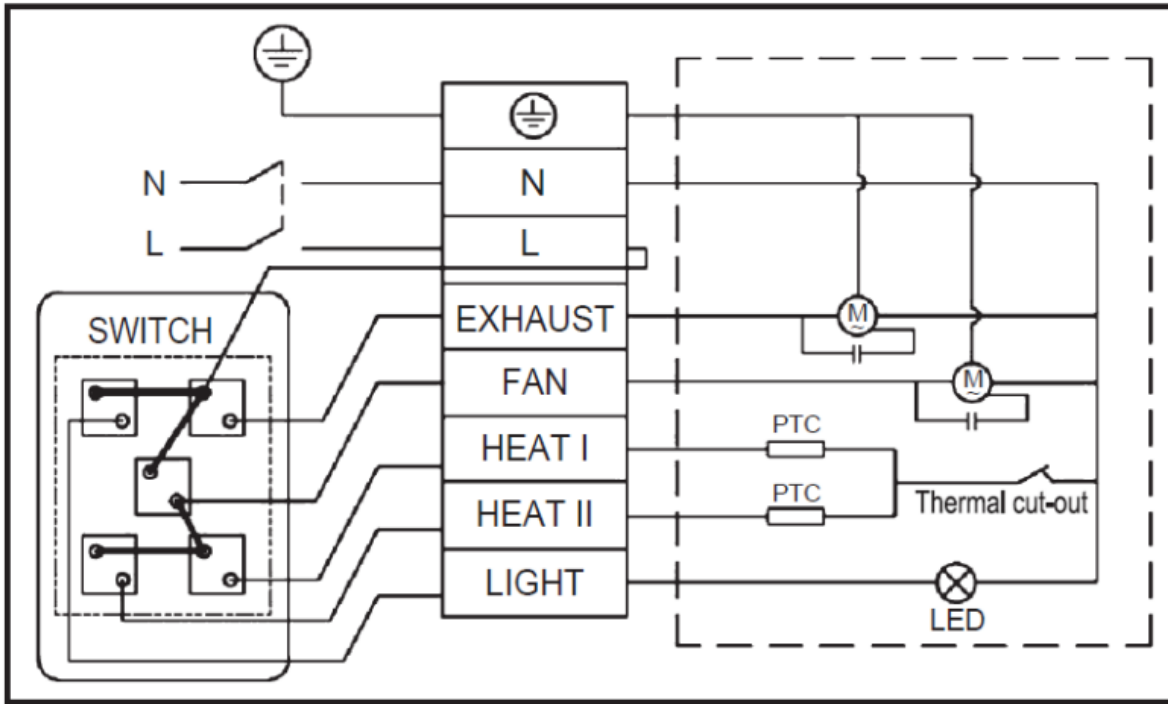

Fig. 6
- Remove the terminal cover on the side of the METT fan, Connect the supply wires to the terminal block on the side of the METT fan. Complete in accordance with the wiring diagram shown in Fig. 6
- Make the wiring connection of the wall switch supplied to the terminal block on the METT fan, using wiring diagram shown in Fig. 6, make sure all cables are securely connected and refit the terminal box cover.